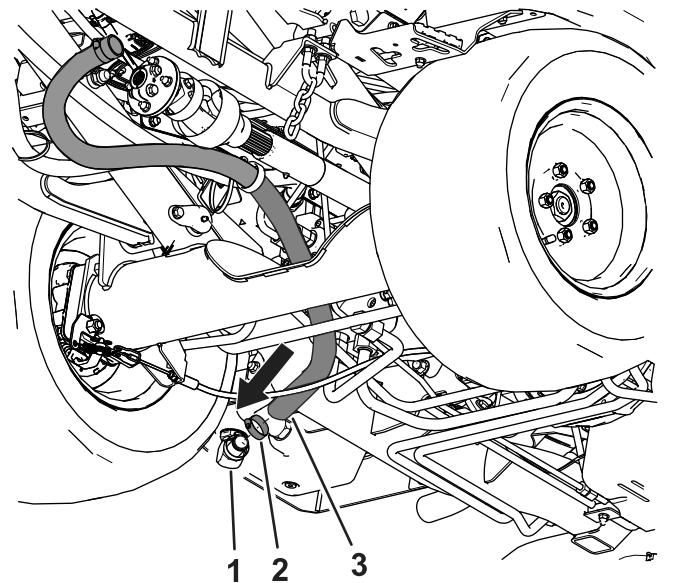

**Figure 15**
1. Install the strainer hose to the broom pump (Figure 15).